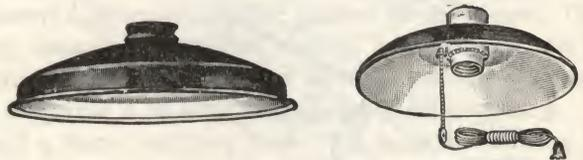

Fig. 17-11. Reflectors pay dividends. A 60-watt bulb with a reflector gives as much useful light as a 100-watt without a reflector. Keep reflectors clean.
**Reflectors:** When exposed bulbs are used, half of the light goes downward, the other half goes upward and strikes the ceiling. Ceilings in barns and similar buildings are usually dirty, so that most of the light is absorbed, not reflected. As a result nearly half of the light is wasted. Use a good reflector for each bulb, and the half of the light which is otherwise wasted will strike the reflector and be thrown downward. *A 60-watt bulb with a good clean reflector usually gives as much useful light as a 100-watt without the reflector.* Reflectors are inexpensive and some available types are shown in Fig. 17-11. A kerosene lantern with a smoky chimney gives little light; clean the reflectors regularly for maximum efficiency.